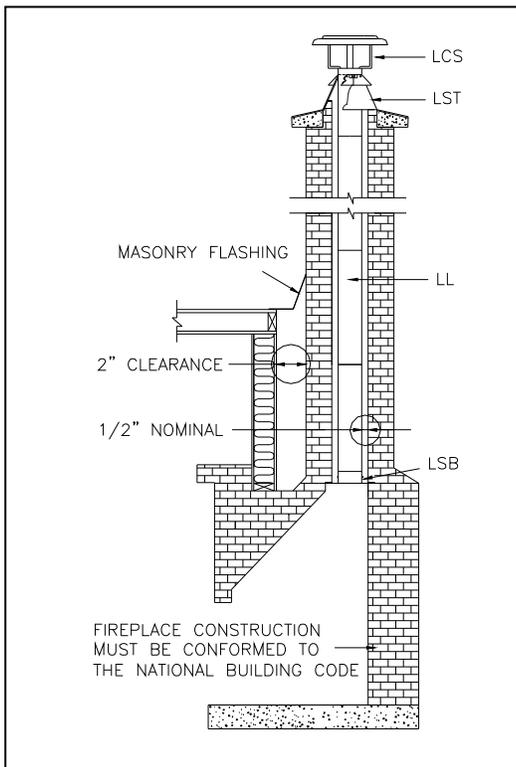

Fig. 8 – Lining system for new fireplace installation
- **NEW CHIMNEY LINING (fig.8)**